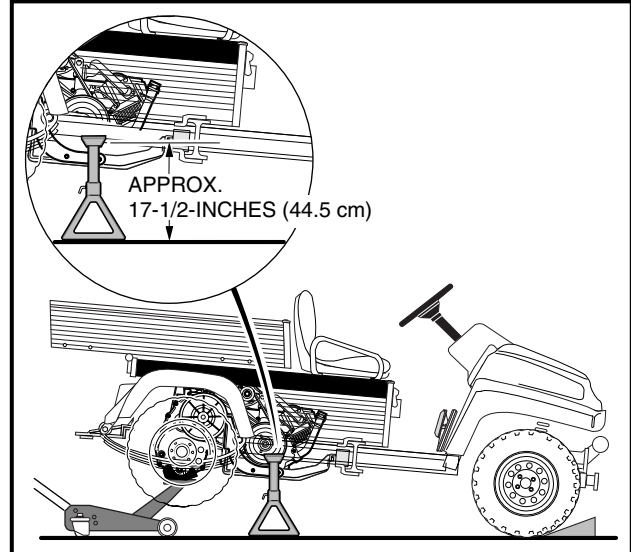

Figure 9-3 Correct Positioning of Jack Stands
- Position jack stands under the two side stringers as shown (**Figure 9-3, Page 9-3**). Lower the floor jack to let the jack stands support the vehicle. See **WARNING "Lift only one end..."** in **General Warning, Section 1, Page 1-2**.